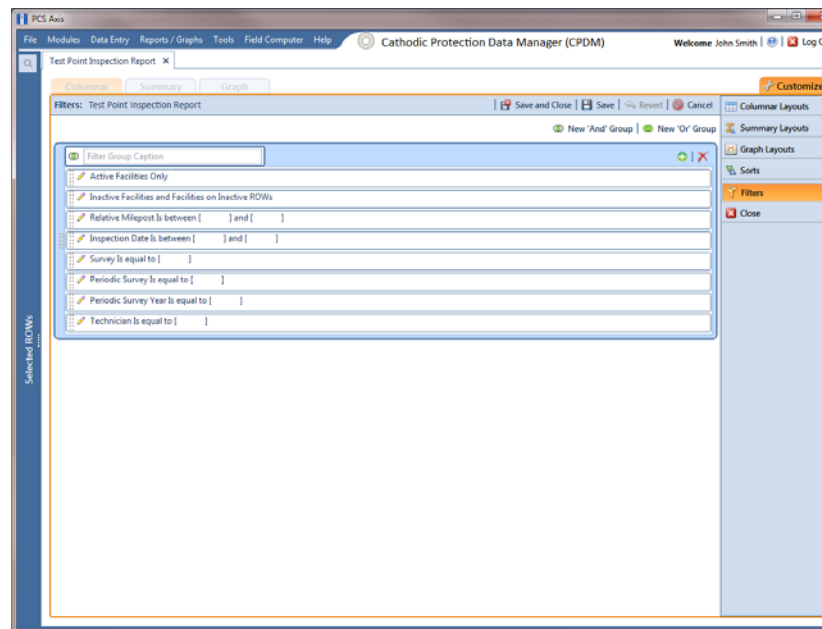

Figure 16-46. Filters
- 3 Click the **Customize** tab  then the **Filters** button  to open the *Filters* page (Figure 16-46).